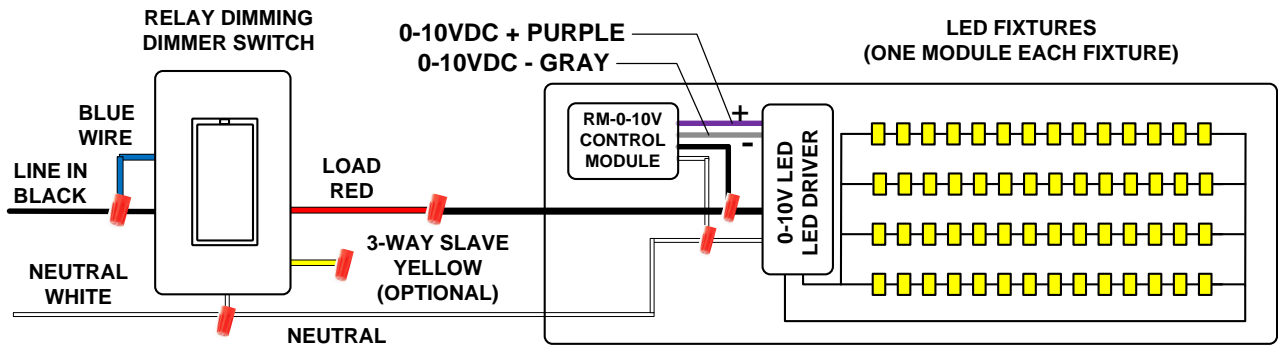

Figure 3: Basic Wiring Diagram
4. Install the WS Wall Switch connecting wiring configuration shown in Fig 3 or Fig 4.